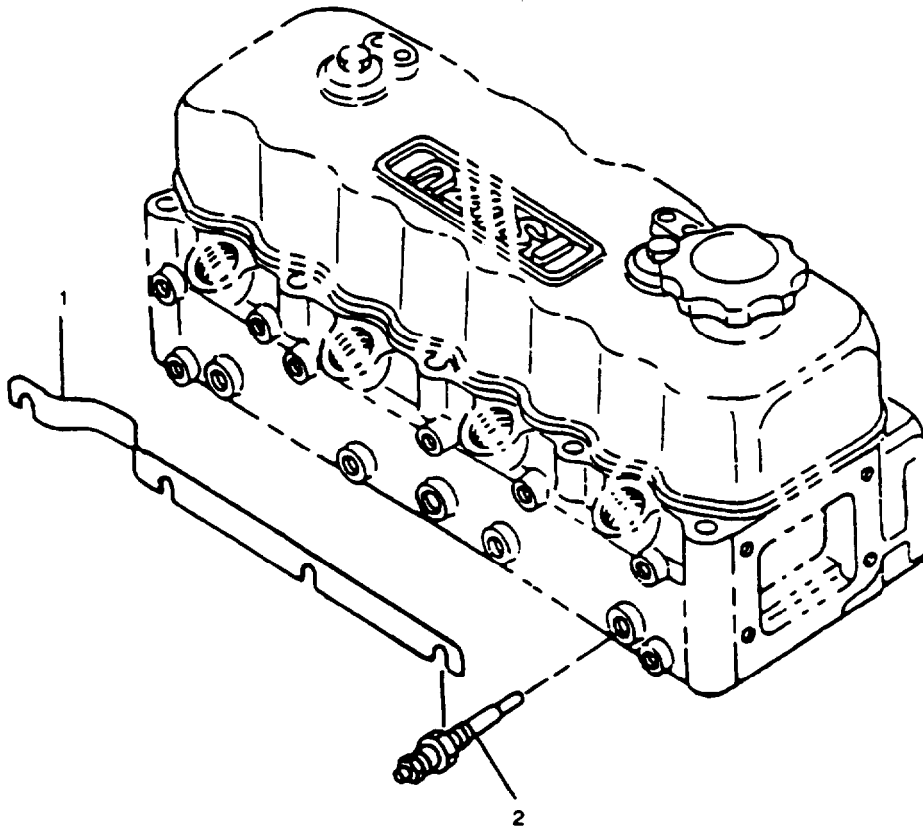

FIGURE 3-46. Glow Plugs Assembly
- a. Loosen nuts on glow plugs and remove connector (1, FIGURE 3-46).
- b. Remove glow plugs (2).
- a. Install four glow plugs (2, FIGURE 3-46) in cylinder head. Tighten to 168 in-lbs (19.9 Nm).
- b. Install connector (1) by tightening nuts on glow plugs.